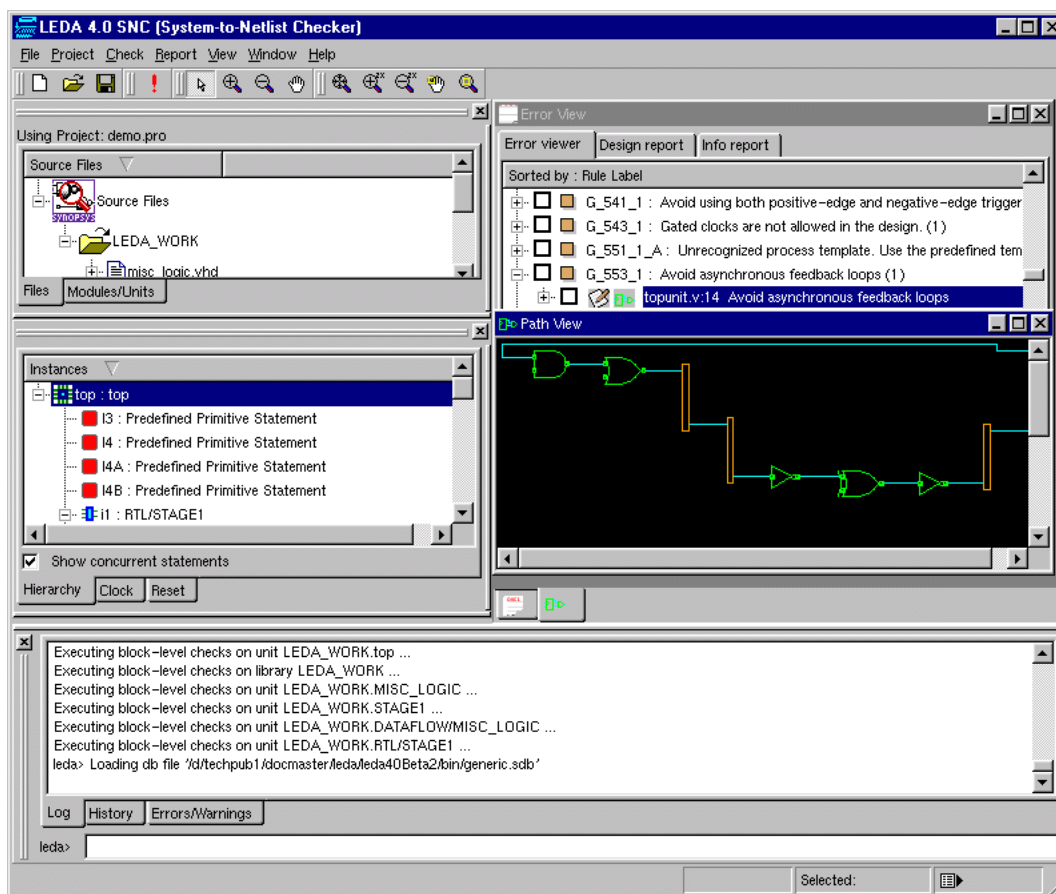

Figure 27: Checker After Check
After you run the Checker on a design, the main window fills up with a lot of detailed information about your HDL design, including a complete hierarchy of all your source files, a summary panel that reports the number and kind of errors found, and an Error Viewer that you can use to learn more about the rules that were violated using the HTML-based help system. There is also a Path Viewer and Clock and Reset Tree browser that help you visualize errors for rules where tracing information is available. Best of all, you can also hyperlink directly from the Error Viewer to the exact locations in your HDL code where Leda spotted rule violations, make the fixes, and recompile your project without leaving the tool. Figure 27 shows the Checker window after running the demo project that comes with Leda.
4. For each warning or error message in the Error Viewer, use the check boxes in the display to keep track of the violations that you have debugged and fixed (see Figure 27). Left click in a check box to make a check mark appear. Left click again to toggle back and clear the check box. When you later save the log file, the status of the check boxes for each violation is also saved in the log file. This way, when you reload the log file (leda.log) the check boxes that you marked and saved from your last session with the tool are displayed.